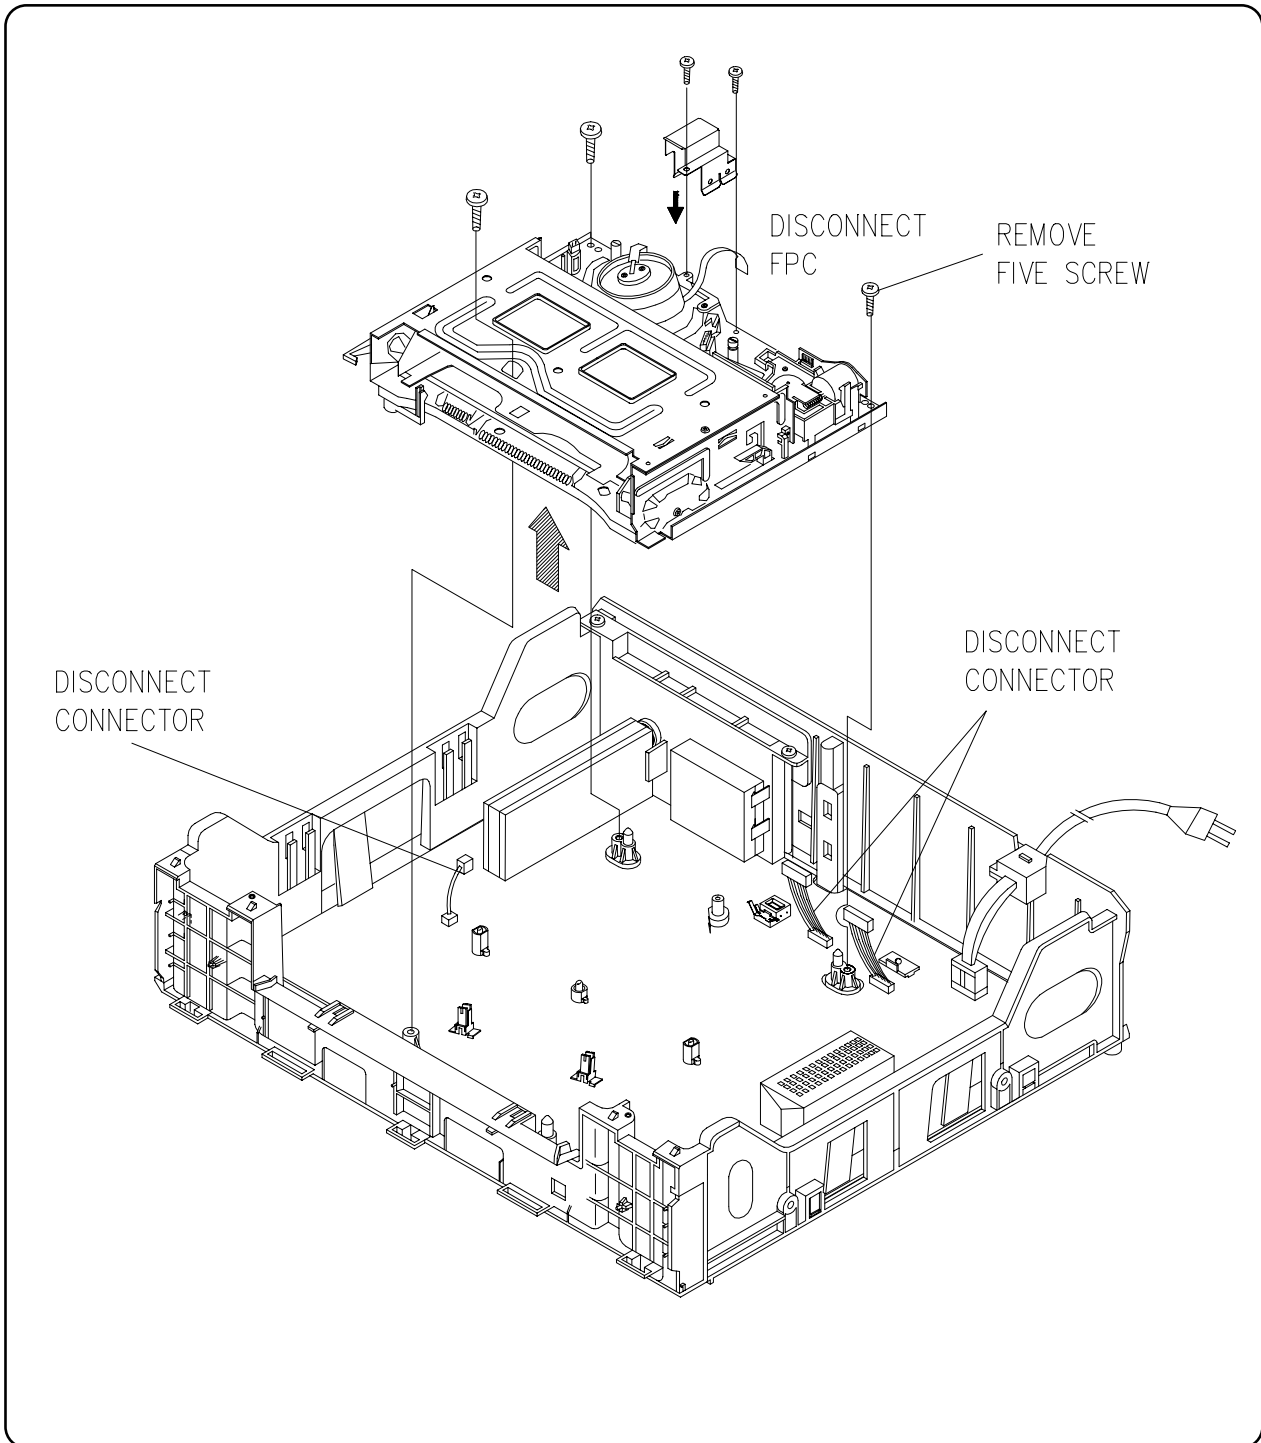

FIG. 6
6. PCB MAIN AS/DECK AS REMOVAL (FIG. 6)